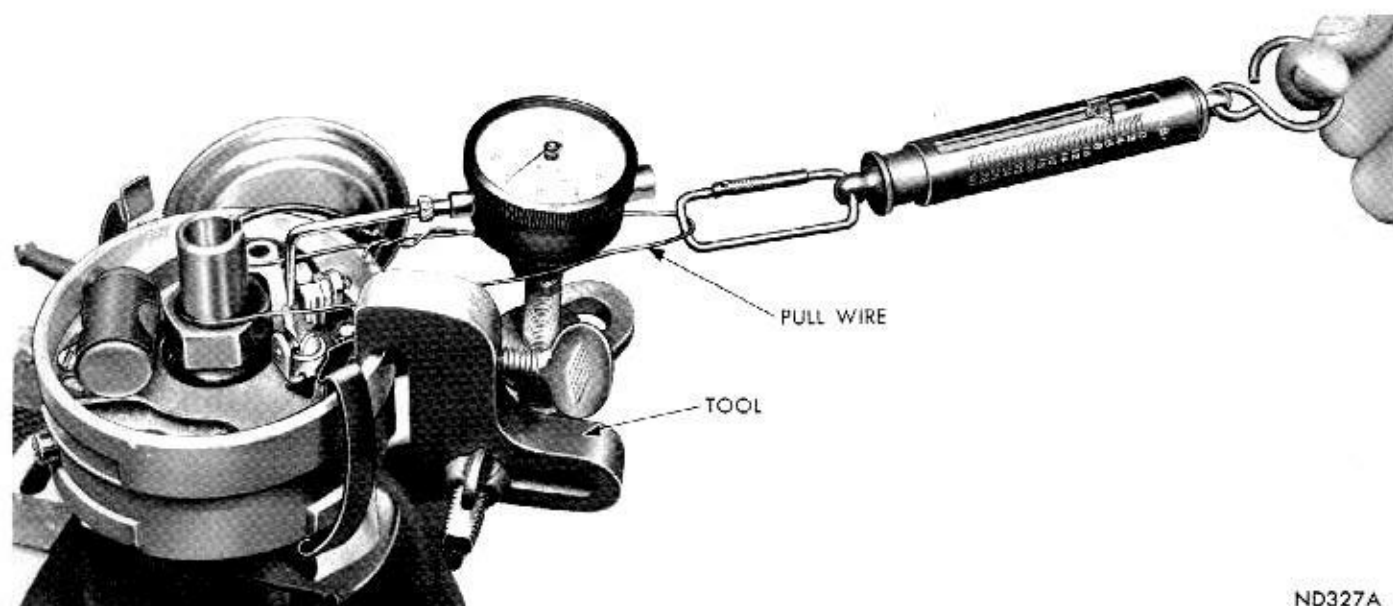

Fig. 3—Shaft and Bushing Wear Test
(1) Remove distributor rotor.
(2) Disconnect primary lead wire at distributor terminal. **Do not loosen** removable contact arm spring retaining nut.
(3) Clamp distributor hold-down arm in a vise equipped with soft jaws and apply only enough pressure to restrict any movement of the distributor during this test.
(4) Attach a dial indicator to distributor housing so indicator plunger arm rests against movable arm at rubbing block and with rubbing block of movable contact arm on highest point of a cam lobe (Fig. 3).